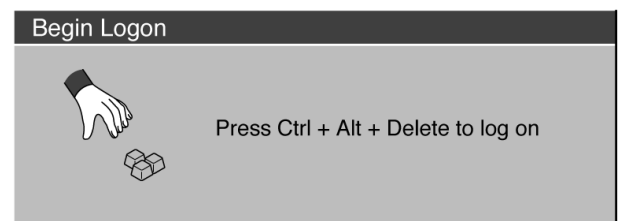

Fig. 3-3 Begin Logon window
- The **Begin Logon** window appears on the screen (Fig. 3-3).